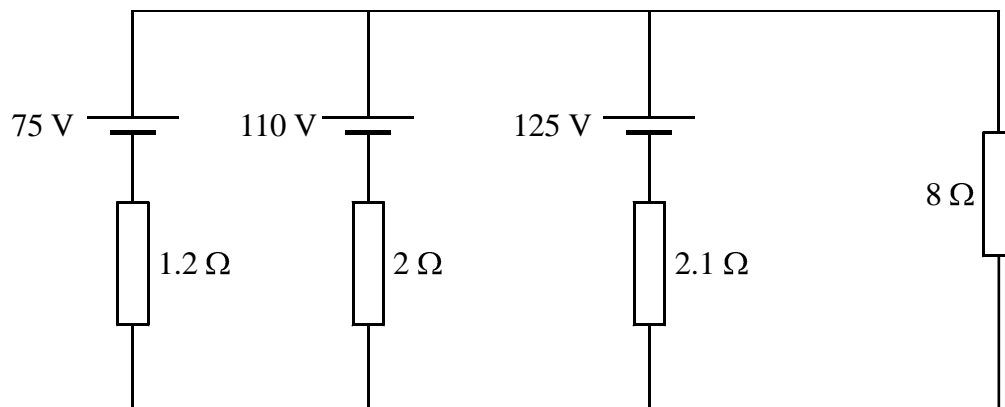

Fig Q1
1. For the circuit shown in Fig Q1, determine EACH of the following:
- (a) the current supplied by each battery; (10)
- (b) the voltage across the  $8\ \Omega$  load resistor; (3)
- (c) the power dissipated in the  $8\ \Omega$  resistor. (3)